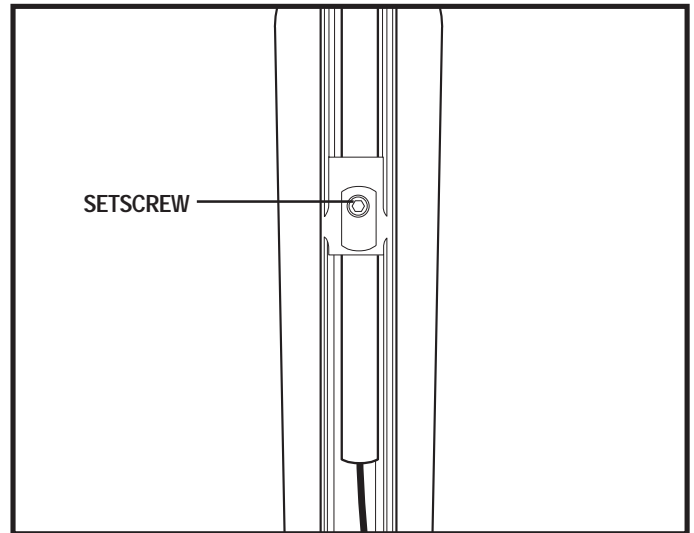

Figure 13. Controller Installation - Underside of Armrest
4. Flip up the armrest and loosen the setscrew. See figure 13.